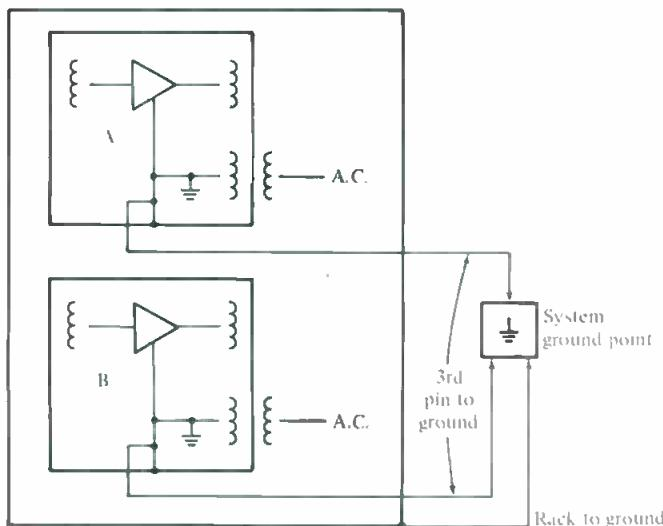

Figure 1. In many equipment rack installations, each device is separately connected to ground via the third pin on the power cord plug.
**A** GROUND LOOP within an equipment rack is a typical problem when devices—usually in metal cases—are mounted in a meter enclosure, as seen in FIGURE 1. Even if each piece of equipment is balanced and has an acceptable internal ground reference, there may still be a problem. Small currents may be induced